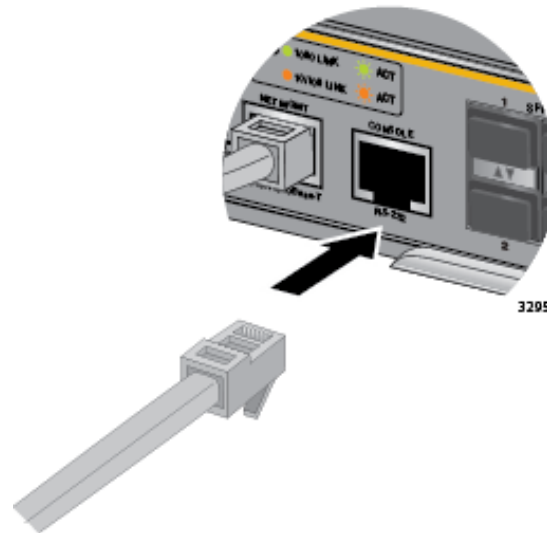

Figure 153. Connecting the Management Cable to the Console RS-232 Port
1. Connect the RJ-45 end of the management card included with the AT-SBx81CFC960 Controller Fabric Card to the Console RS-232 port on the front panel of the AT-SBx81CFC960 Controller Card, as shown in Figure 153. If the chassis has two controller cards, you may use the Console RS-232 port on either card to establish a local management session with the chassis.